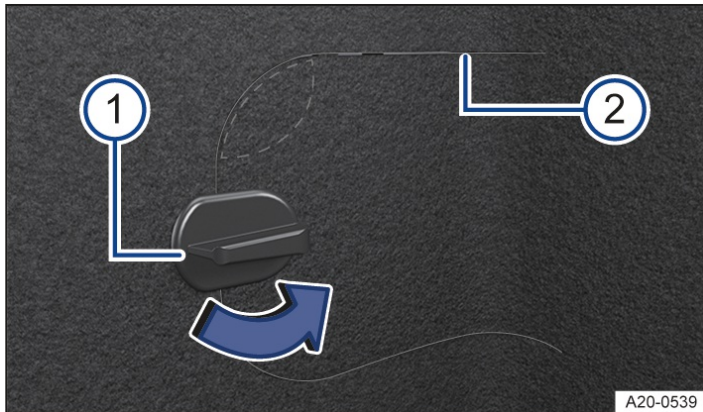

Fig. 1 Lower right-hand side of the luggage compartment trim: flap for the manual release.
2. Turn the catch on the flap by 90° → Fig. 1 ① (blue arrow).
3. Press in the area above the catch → Fig. 1 (highlighted area).
4. Reach into the opening and release the flap by pulling. If necessary, use a suitable tool at the separation points → Fig. 1 ②.